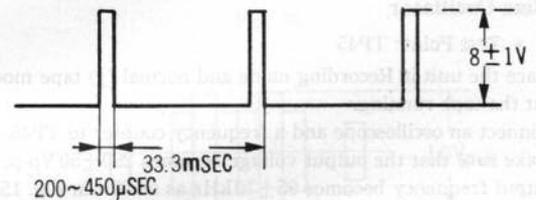

Fig. 10
3. Make sure that the waveform of TP24C becomes as shown in Fig. 10.